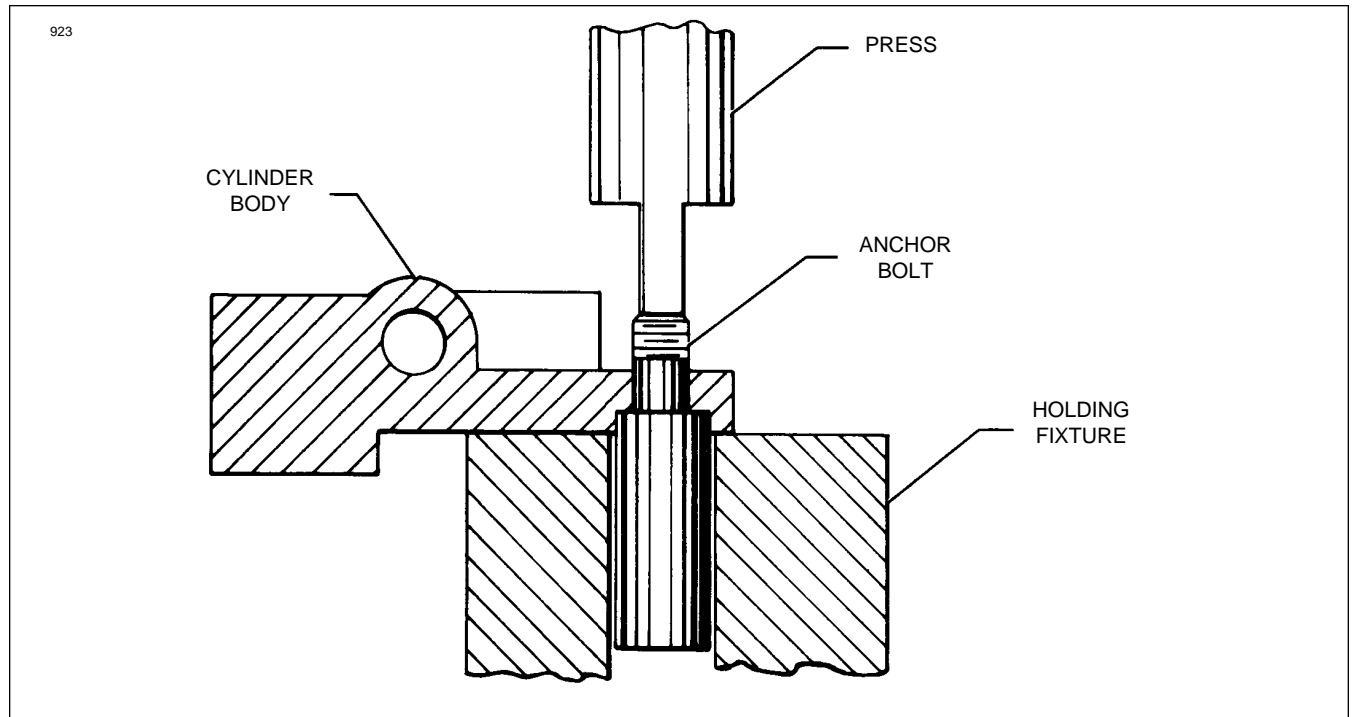

Figure 7-10 Removal of Anchor Bolt
1. Position cylinder assembly on a holding fixture. (Refer to Figure 7-10).